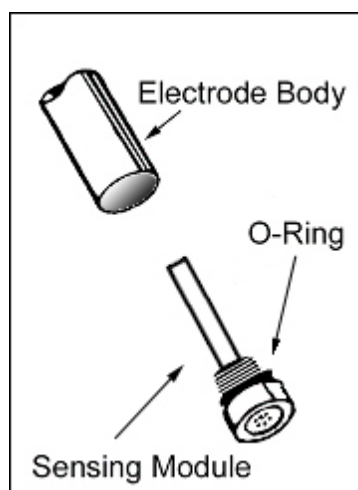

Figure 4: replacing the Sensing Module
1. The AC017 sensing element comes premounted on the end of the electrode with a protective bottle, but can be removed by unscrewing the electrode end. **Caution: Do not touch the PVC membrane with your fingers or over tighten the sensing element** (see Figure 4)